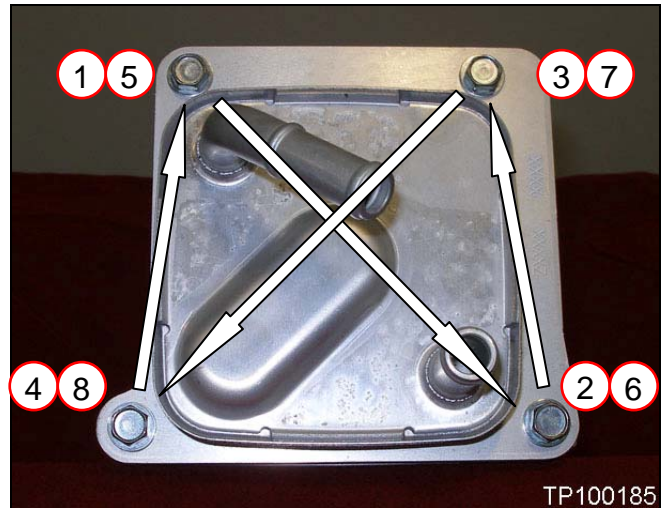

Figure 5
- Bolts torque sequence: 1-2-3-4-5-6-7-8 (see Figure 5).